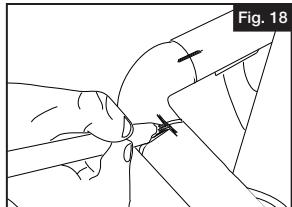

Fig. 18
- 3.** Insert the joiners (included with corner) into the corner. Dry fit the assembled corner with the lineals. If all components are aligned properly, make reference marks (Fig. 18).